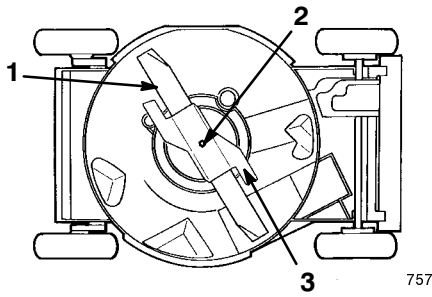

Figure 22
4. Tip the lawn mower onto its **right** side (air filter up) (Fig. 22).